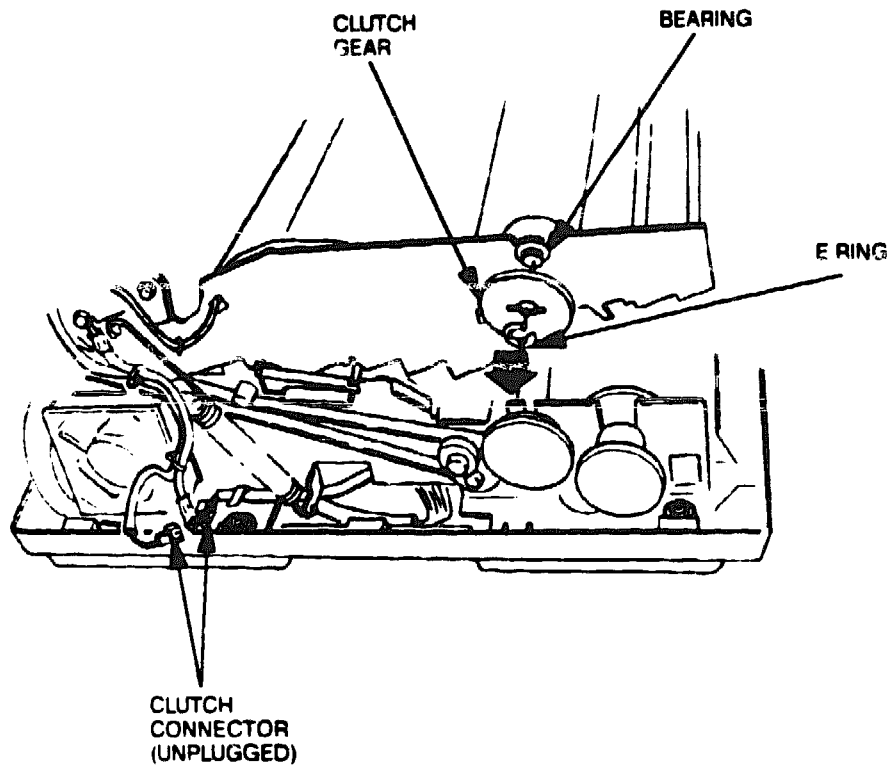

Figure 6-94 Electromechanical Clutch Cable, Cable Tie, Clutch Gear, and Bearing
3. Unplug the electromechanical clutch connector (see Figure 6-94).
4. Remove the clutch cable shown in Figure 6-94 from the cable ties on the upper side frame (L) and pull out the cable.
5. Remove the E retaining ring on the clutch gear and slide the clutch gear off the clutch shaft (see Figure 6-94).
6. Remove the pin and bearing on the clutch shaft (see Figure 6-94).